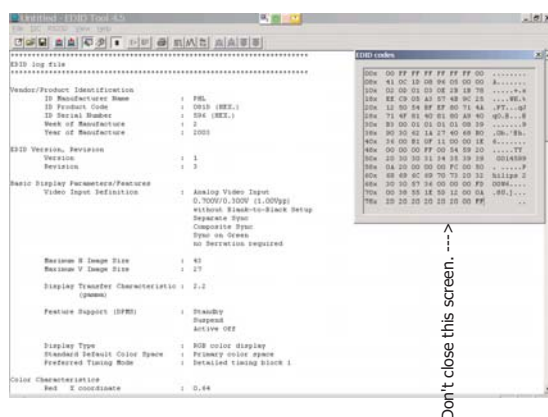

Fig. 20
4. Click icon (Read EDID function) to read DDC EDID data from monitor. The EDID codes will display on screen as shown in Fig. 20.